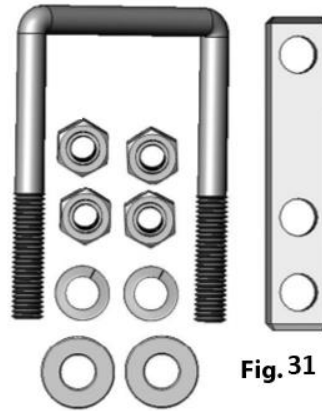

Fig. 31
1. Check the package contents per Fig. 31